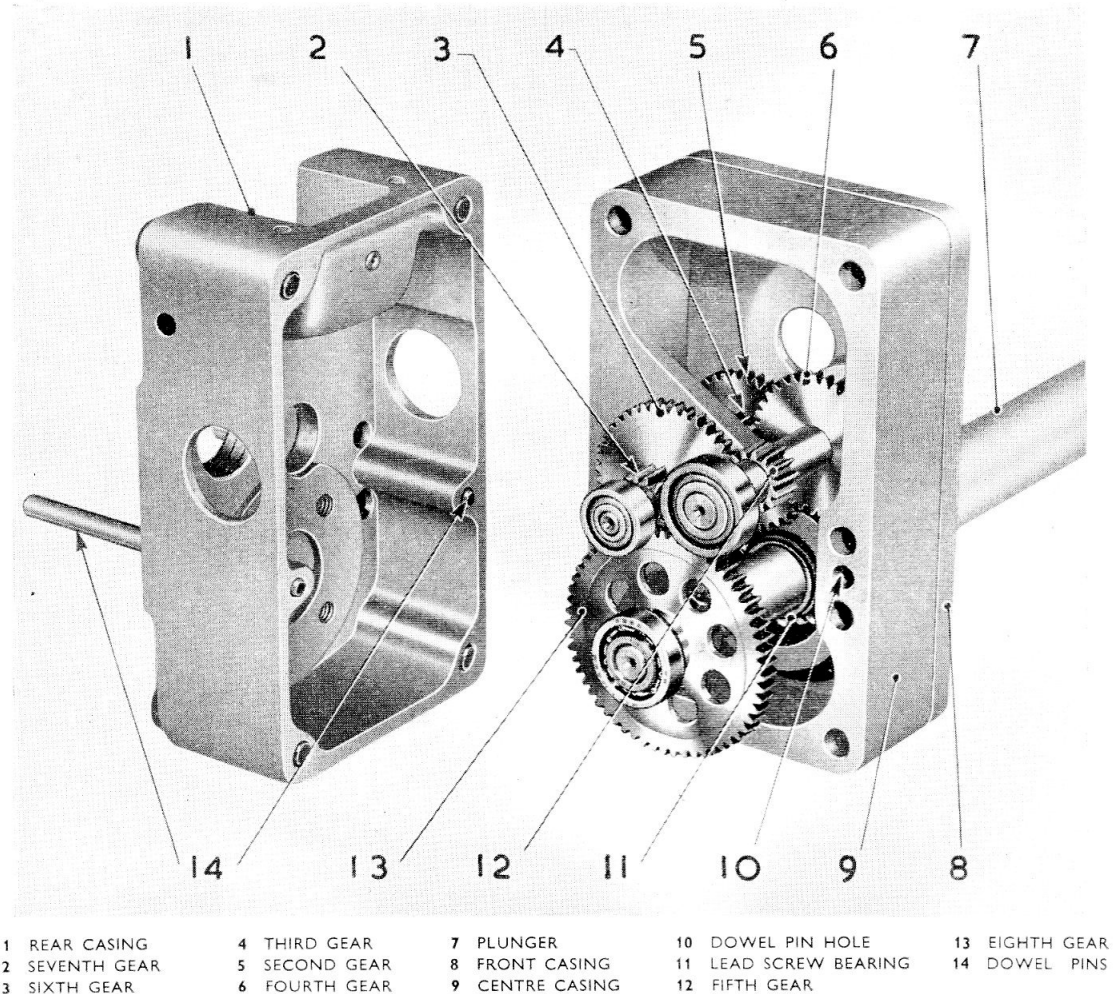

Fig. 2. Gearbox
2. The general construction is as described in the Appendix on Jaguar actuators, to which reference should be made for further information. It has, however, a lower powered motor, and a lower ratio gearbox, as illustrated in fig. 2, with no slip clutch fitted. The rear fitting is a Silentbloc bush type.